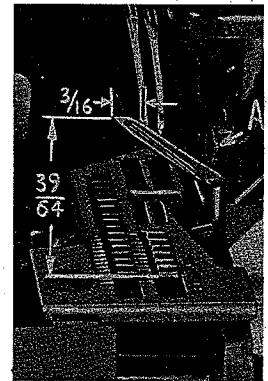

Fig. 10
10). If resetting is necessary, do it by moving the upper looper holder (A, Fig. 10). Figure 10 represents the correct dimensional setting.
If it becomes necessary to move looper thread pull-off (AF), be sure to take up all end play in needle drive shaft before tightening. If upper looper is located so that it is higher over throat plate than recommended in (Fig. 10), the purl will tend to form near top edge. If upper looper is too low, the purl will form nearer bottom edge.